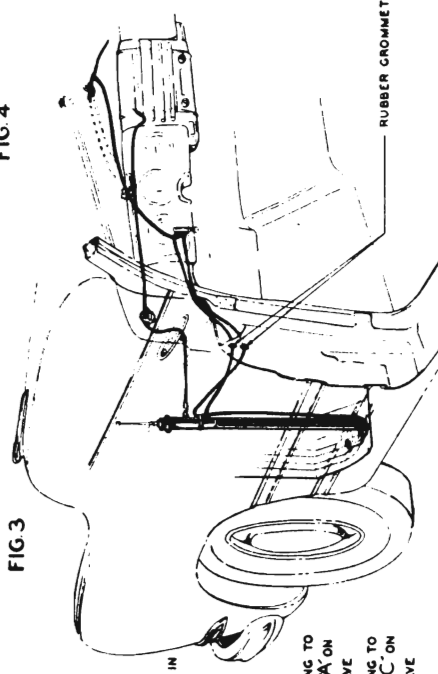
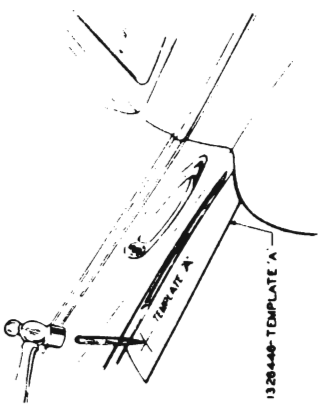
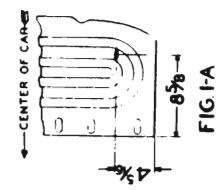

FIG 1
FIG 5
FIG 1A
1. PLACE TEMPLATE 'A' ON LEFT FRONT FENDER. LOCATE CENTER OF HOLE WITH CENTER PUNCH AND DRILL 1/16 HOLE AS SHOWN IN FIG 5 USING TOOL J-1272-B.
4. LOCATE (FIG 1A) DRILL AND ELONGATE HOLE IN GRAVEL DEFLECTOR. INSTALL ANTENNA ASSEMBLY IN FENDER. ATTACHING TO FENDER AND DEFLECTOR AS SHOWN IN SKETCH. ELONGATED HOLES PERMIT MOVEMENT SO ANTENNA MAY BE SET IN A VERTICAL POSITION. TIGHTEN NUTS SECURELY. (SEE NOTE—FIG 1)
6. CLIP LEAD-IN CABLE TO DASH (FIG 5) AND RUN THROUGH HOLE IN LARGE GROMMET IN UPPER CORNER OF DASH, THEN OVER TO RADIO AND PLUG IN. ASSEMBLE TO ANTENNA. (FIG 1)